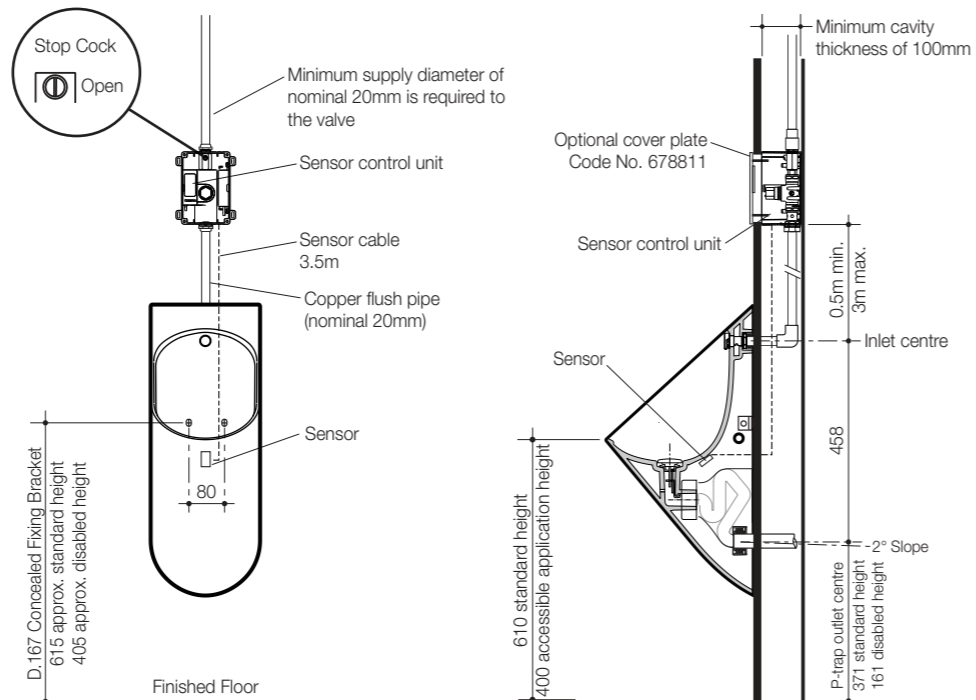
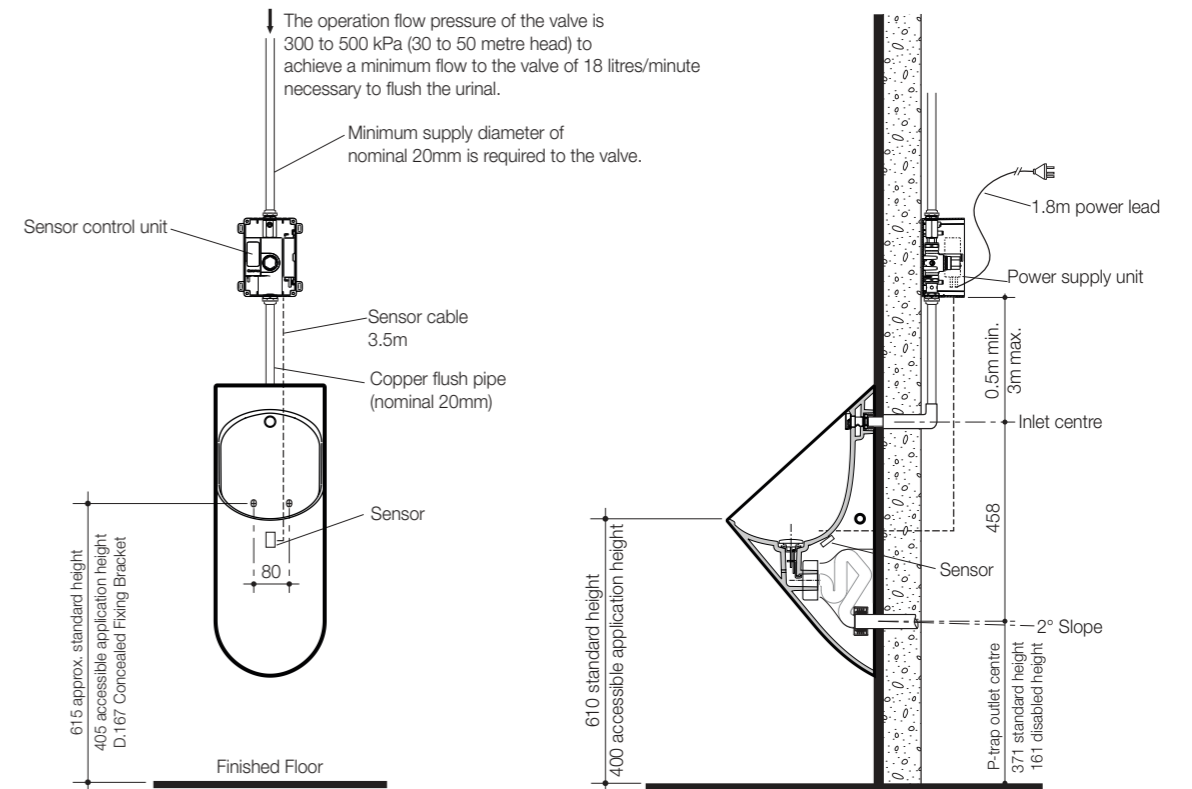
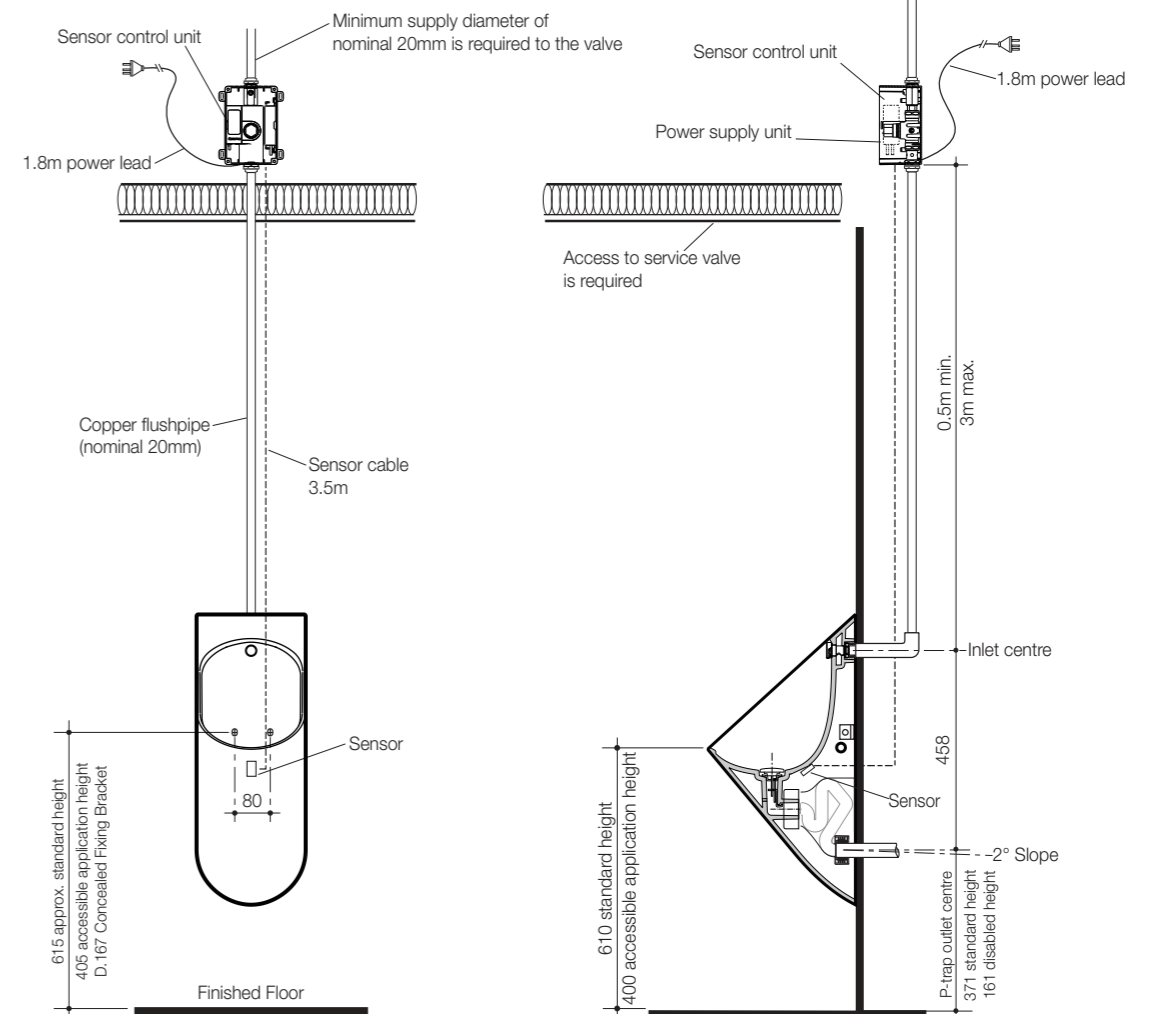

Fig. 1
Fig. 4
Fig. 5
1. Install flush valve as required, inwall (Fig. 1), induct (Fig. 4) or in ceiling (Fig. 5).
7. Mount Sensor Control Unit, as detailed in Fig. 1.